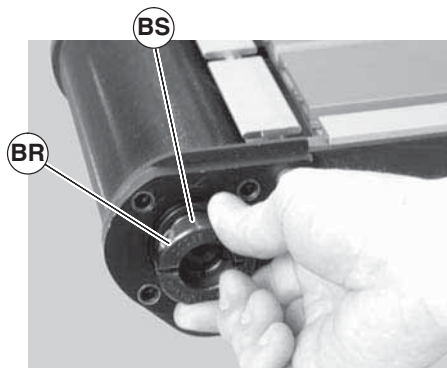
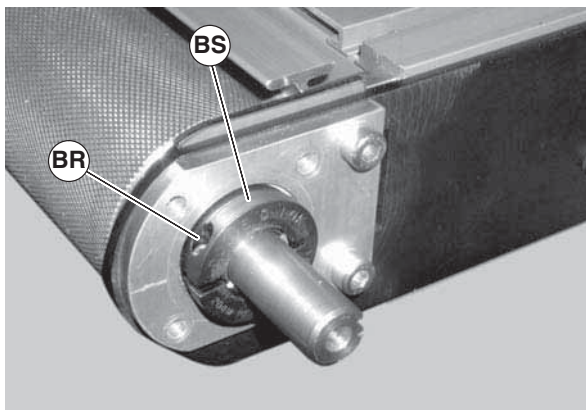

Figure 49
Figure 50
5. Loosen the bearing collar set screw (Figure 49, item BR) and remove bearing collar (BS). Repeat on drive shaft side of pulley (Figure 50, item BR and BS).. / mn